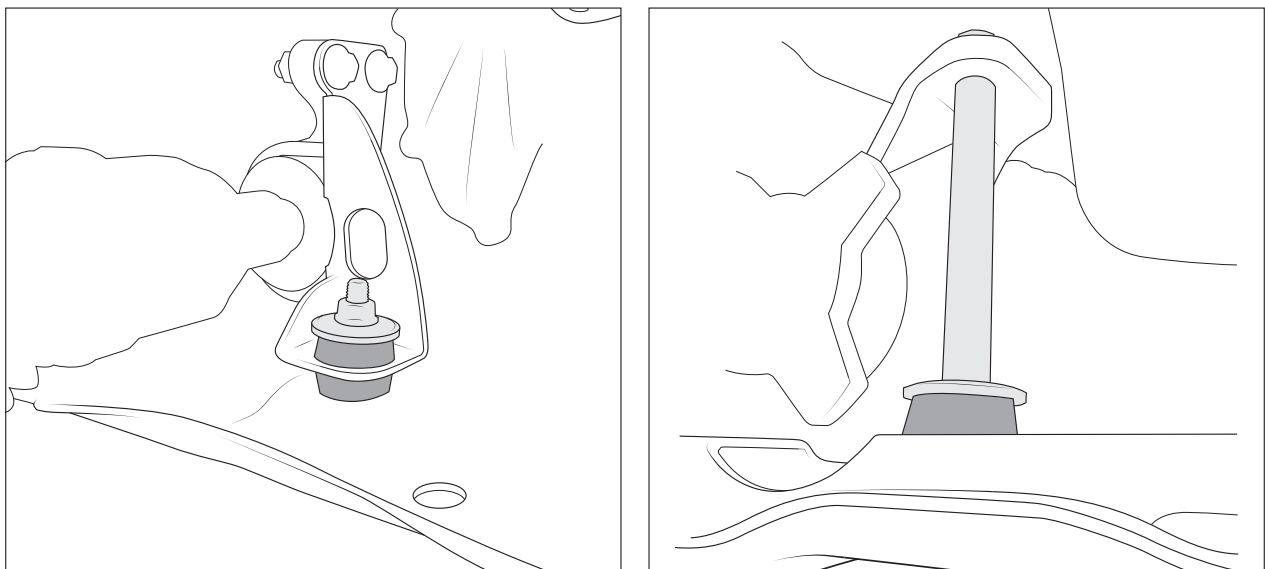

Figure 22
B. Align front bushings with skidplate holes. Feed M12x70mm bolts up from bottom. Place cupped washer on top of bushings with dish facing downward, then loosely install M12 flange nuts (fig. 22).
C. Place cupped washer on top of bushing. Raise pinion and place long tube spacer between cupped washer and upper bracket. Slide cupped washer into place below bottom of bushing, then feed M12x-220mm bolt up from bottom of skid, through the cupped washers and sleeve, through tube spacer, and up through pinion bracket. Install flange nut to top of bolt and bracket (fig. 22).